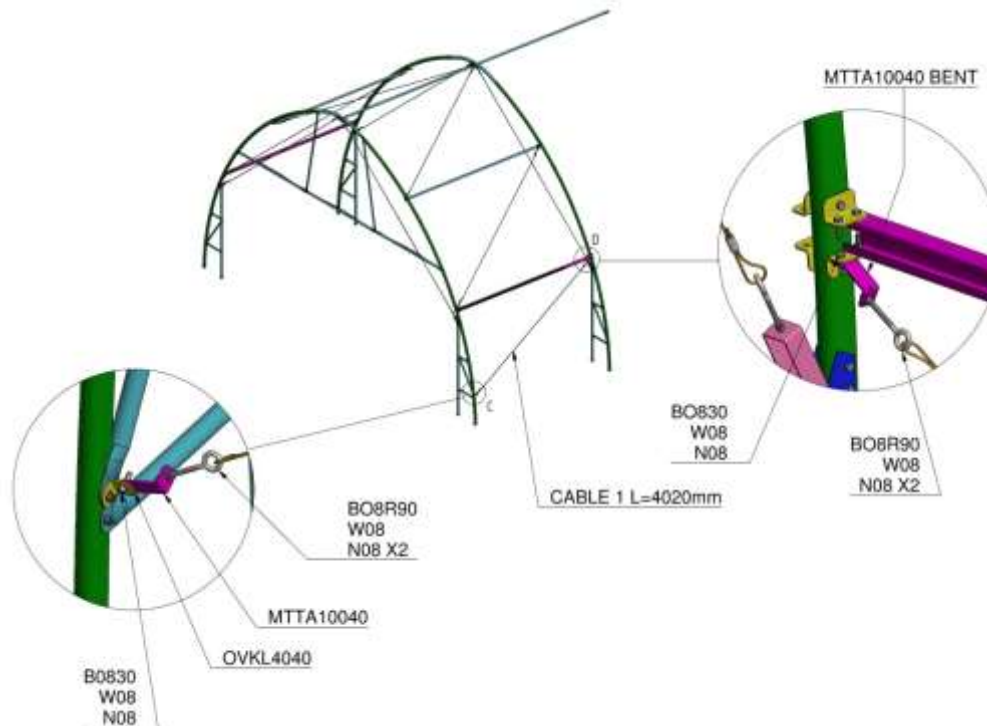

Figure 20: The cable (#1) connecting between end arcs
1. Reinforce the arcs with cable #1 (Figure 20). This is only between arcs 1 and 2, and between the last two arcs (4 and 5).